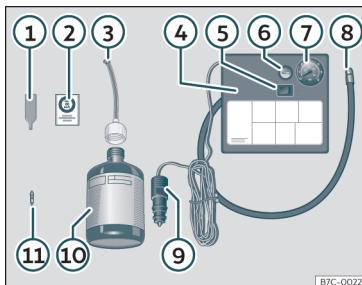

Fig. 31 Standard representation: anti-puncture kit contents.
The anti-puncture kit is located underneath the floor covering in the luggage compartment. It includes the following components » **Fig. 31:**
- ① Valve insert remover
- ② A sticker to be adhered to the instrument cluster, within the driver's visual field, to remind that the maximum advisable speed "max. 80 km/h" or "max. 50 mph" » **Fig. 31:**
- ③ Filler tube with cap
- ④ Air compressor (depending on the version, the model may vary).
- ⑤ ON/OFF switch
- ⑥ Air bleed screw (it can also be integrated in the inflator tube).
- ⑦ Warning provided by tyre pressure monitoring system (it can also be integrated in the inflator tube).
- ⑧ Tube for inflating tyres
- ⑨ 12 volt connector
- ⑩ Bottle of sealant
- ⑪ Spare tyre valve
- Unscrew the tyre valve cap and insert. Use the » **Fig. 31** ① tool to remove the insert. Place it on a clean surface.
- Shake the tyre sealant bottle vigorously » **Fig. 31** ⑩.
- Screw the inflator tube » **Fig. 31** ③ into the sealant bottle. The bottle's seal will break automatically.
- Remove the lid from the filling tube » **Fig. 31** ③ and screw the open end of the tube into the tyre valve.
- Place the insert back into the tyre valve using the tool » **Fig. 31** ①.
- Screw the compressor tyre inflator tube » **Fig. 31** ⑧ into the tyre valve.
- Check that the air bleed screw is closed » **Fig. 31** ⑥.
- Insert the connector » **Fig. 31** ⑨ into the vehicle's 12-volt socket » **page 142**.
- Turn the air compressor on with the ON/OFF switch » **Fig. 31** ⑤.
- Attach the sticker»» **Fig. 31** ② to the instrument cluster, within the driver's visual field.
Screw the inflator tube»» **Fig. 31** ⑤ again and check the pressure on the gauge ⑥.